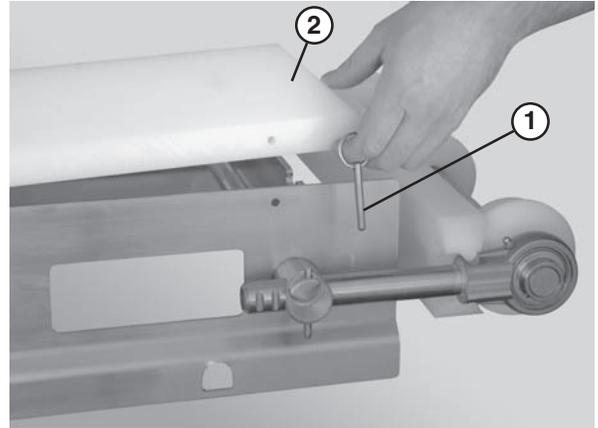

Figure 46
1. Remove the guides, if applicable, by removing the pull pins (Figure 46, item 1) that connect the guide (Figure 46, item 2) to the frame.